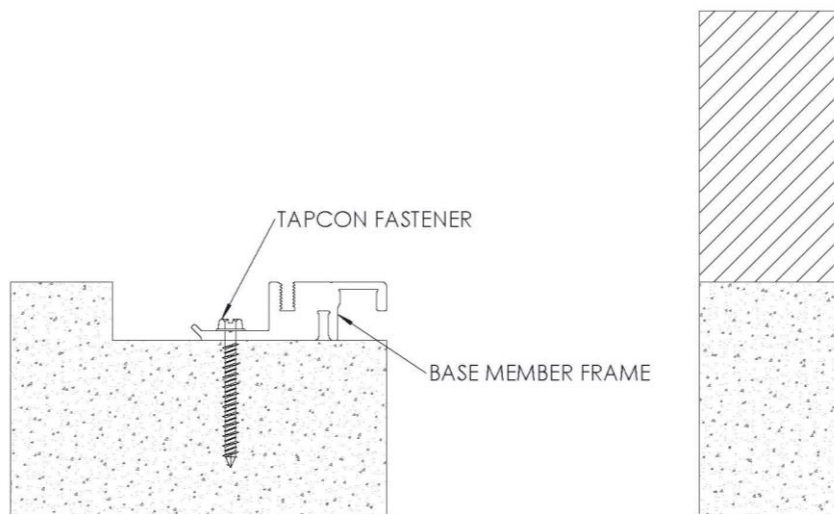

FIGURE 2
2. Position base member frame in blockout per shop drawings. Using the frame as a template, mark and drill $5/32$ " holes for Tapcon fasteners. Install base member frame to the blockout opening with fasteners, making sure not to over tighten. **See Figure 2**